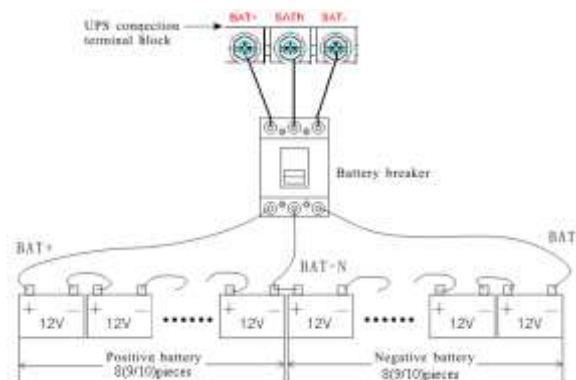

Fig. 3-4 External battery connection
- 3) Remove terminals' cover, use multimeter to make sure there is no DC voltage at the battery terminals of UPS (Fig. 3-4).